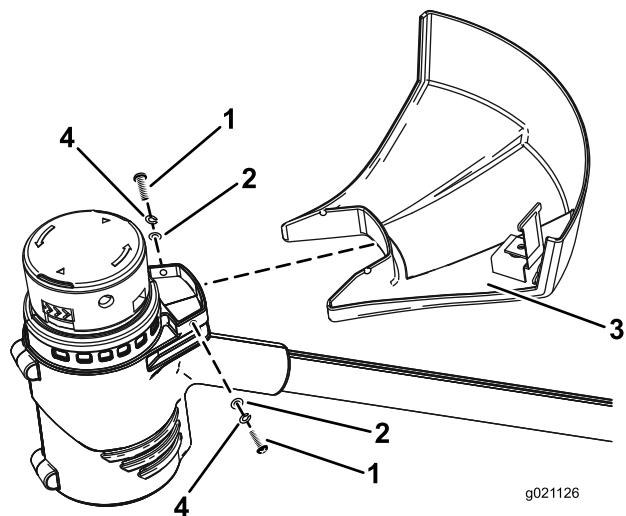

Figure 3
1. Remove the 2 Phillips head screws and 4 washers taped to the guard (Figure 3).
2. Slide the guard onto the trimmer base as shown in Figure 3.